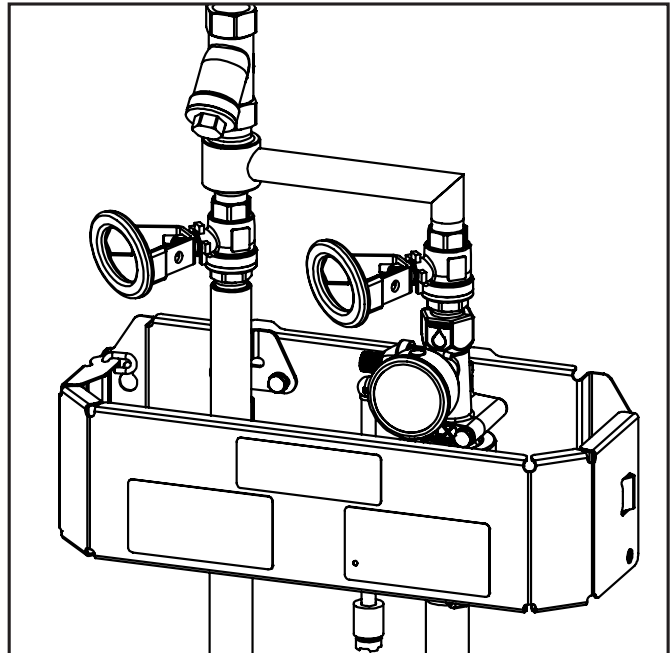

Fig. 6.1: Water supply ball valves closed.
1. Ensure systems are properly connected and the water valves are closed [Fig. 6.1]